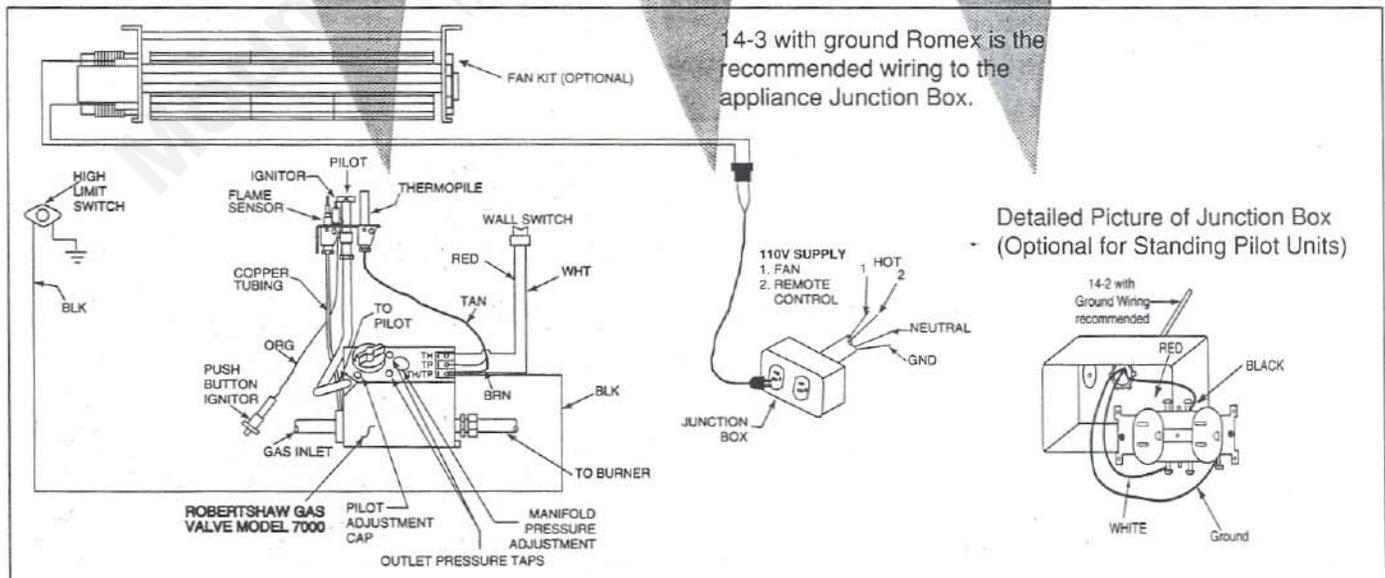

Figure 23 - Standing Pilot Ignition Wiring Diagram
1. Appliance requirements. A wiring diagram is shown in *Figure 23*.